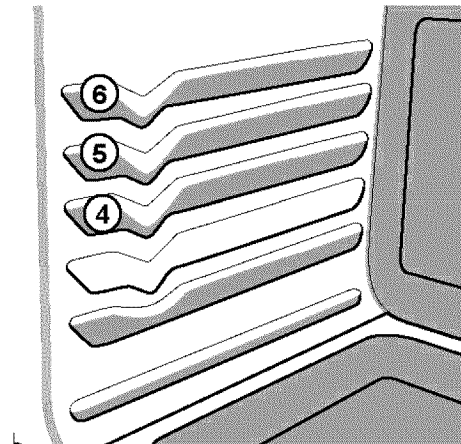

Fig. 2
2. Arrange the interior oven rack- p. 22 Figs. 2 & 3- for position recommendations. Be sure to place the prepared food and pan directly under broil burner. Close the oven door